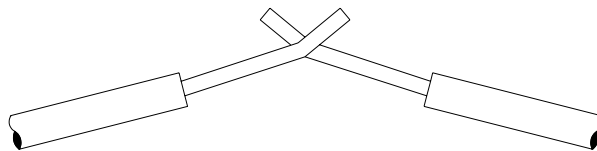

Fig. 1
- For a small gauge wires, (up to  $1\text{mm}^2$ ), and when a mechanical attachment is required, secure the 2 wire ends, by twisting them together. Align carefully the strands in order to avoid any poke through of the sleeve. See Fig. 1 and Fig. 2.